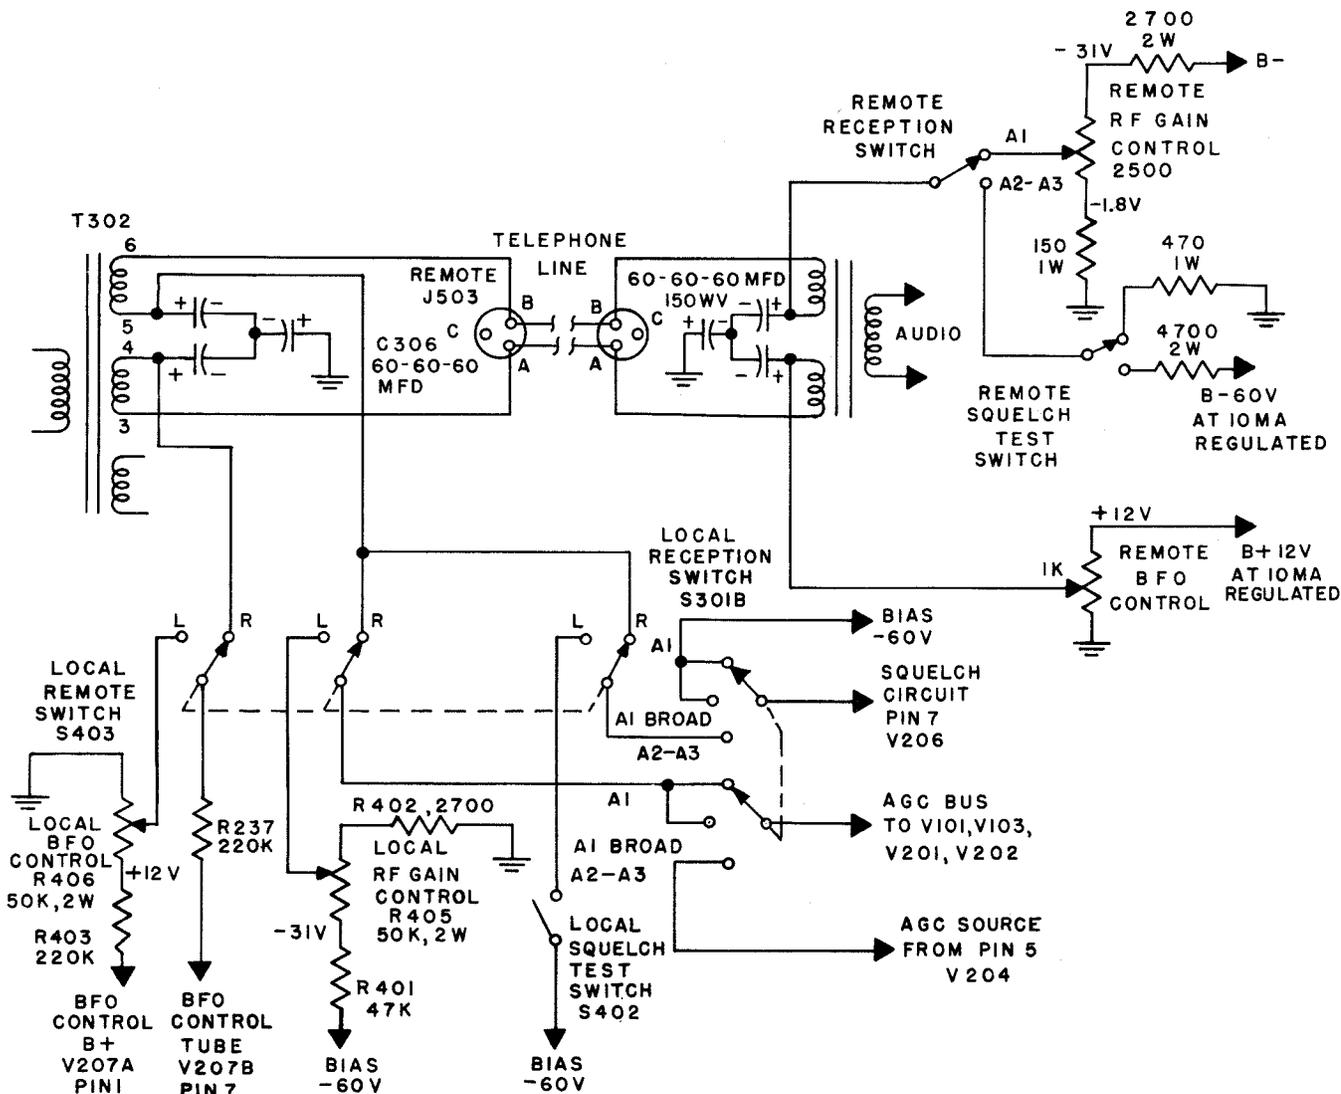

Figure 2-24. Simplified Schematic, Remote Connections
d. REMOTE CONTROL FUNCTIONS.—Figure 2-24 shows a schematic wiring diagram for the remote control connections. The high level output winding of audio output transformer T302, terminals 3, 4, 5 and 6, has its center tap effectively bypassed for AC by a triple section electrolytic capacitor C306. This capacitor permits the connection of DC control functions to pins 4 and 5 without grounding out these voltages. The audio present across the entire winding from terminals 3 to 6 is coupled through pins A and B of REMOTE receptacle (J503) over a remote line (telephone) to REMOTE isolation line transformer with a 1:1 transformation ratio and a split primary which duplicates winding 3, 4, 5 and 6 of T302. A low resistance ground must be connected from the grounded side of C306 in the AN/-
The remote BFO control should provide an adjustable voltage from 0 to +12 volts utilizing a potentiometer with the same taper as the local BFO control (R406). As can be seen from figure 2-24, the positive remote BFO control voltage is connected to the lower half of the remote transformer primary winding, through pin A of J503, through secondary winding 3-4 of T302 and thus to the REMOTE position of the LOCAL-REMOTE switch (S403). The local BFO control (R406) is connected to the LOCAL position of the LOCAL-REMOTE switch (S403). A remote RECEPTION switch must be provided so that either of the two control functions applied to the other side of the telephone line can be selected. Figure 2-24 indicates the remote RECEPTION switch. When switched to A1, connects the RF gain control voltage from the remote RF GAIN control through the remote RECEPTION switch to the upper side of the telephone line. This function passes through pin B of J503 and through T302 winding 5-6 and is then connected to two REMOTE contacts of the LOCAL-REMOTE switch (S403). The local RF GAIN control (R405) is connected to a LOCAL contact of the LOCAL-REMOTE switch (S403). Therefore, either the
local or remote RF GAIN controls can be selected to control the RF gain circuits of the receiver through RECEPTION switch S301B during A1 and A1 BROAD reception. The RF gain control voltages are applied to the AGC bus and thus to V101, V103, V201 and V202 in order to control the over-all receiver gain. When the remote RECEPTION switch is set for A2-A3 reception, a negative voltage of 60 volts can be applied at the will of the operator through the remote SQUELCH test switch as indicated, and through a limiting resistor over the upper telephone line wire to the same two remote contacts of the LOCAL-REMOTE switch utilized by the remote RF GAIN control circuit. A negative voltage of -60 volts can be applied through the local SQUELCH test switch (S402) to the local position of the LOCAL-REMOTE switch (S403). As can be seen from figure 2-24, the V206B squelch tube grid can be connected through the A2-A3 position of the RECEPTION switch (S301B) to either the local or remote SQUELCH test switch.